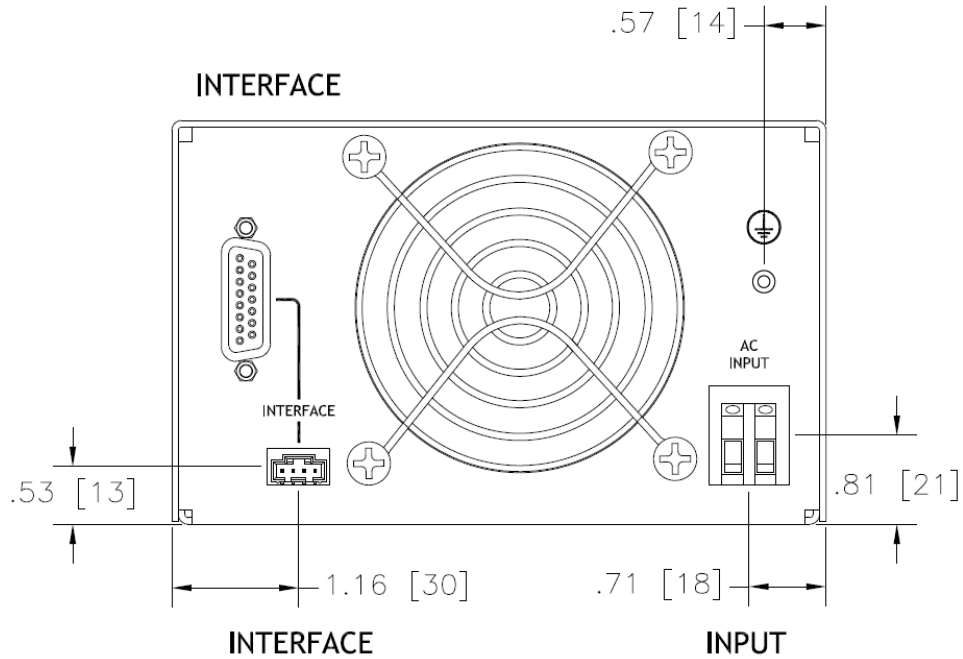

Figure 5, CCPF-500 Input Side Drawing
Outline Please see Figure 4, Figure 5, and Figure 6 for outline details.
- **Required wire and connectors** : Refer to Figure 5, CCPF-500 Input Side Drawing and Figure 6, CCPF-500 Output Side Drawing for the locations of connections. Table 3, CCPF Connections below shows required cables and connectors: